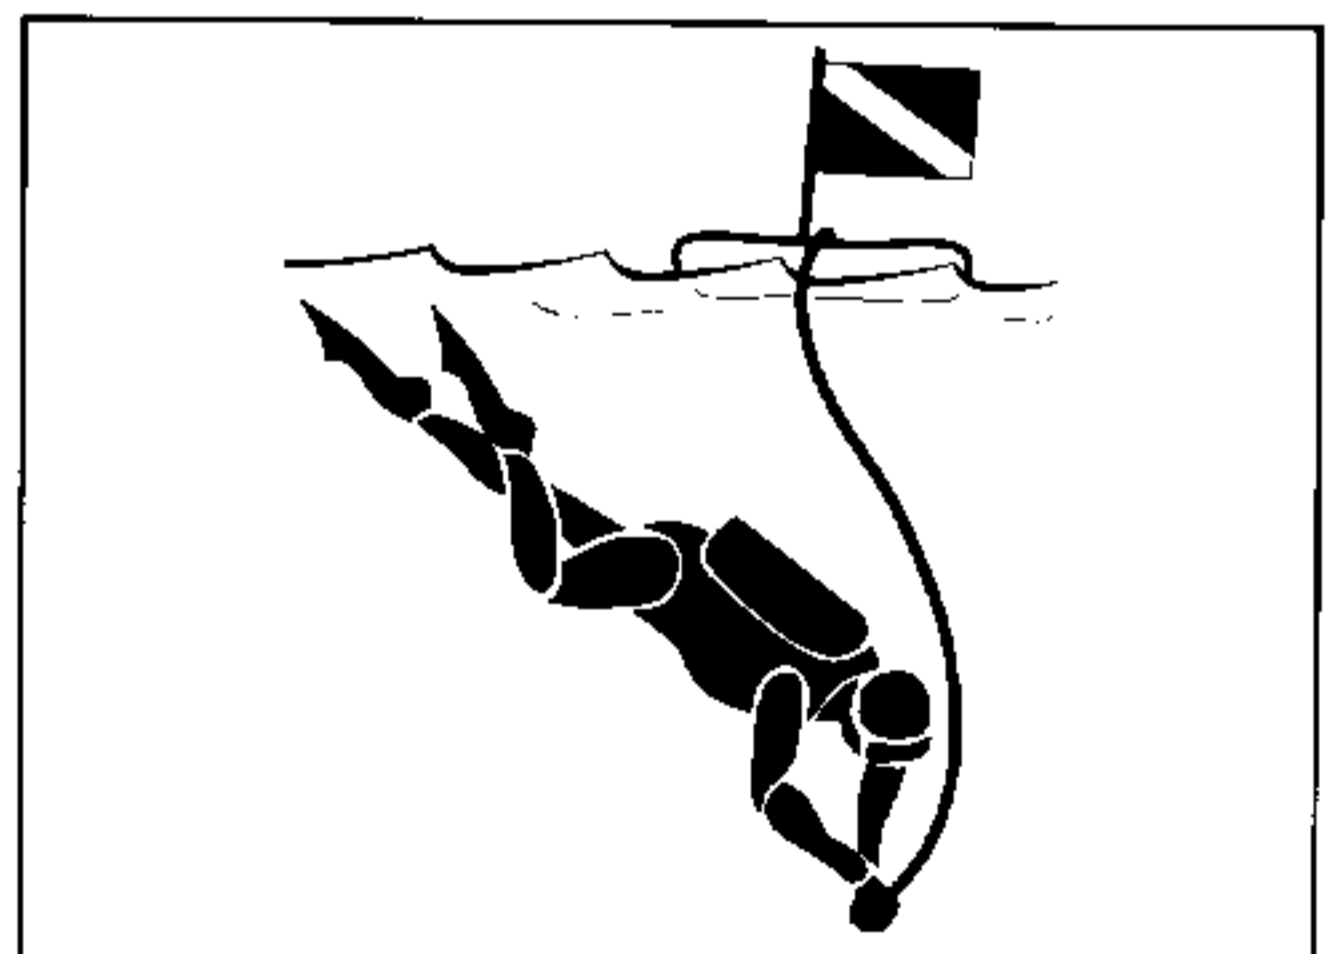

FIGURE 2.12 DIVER DOWN FLOAT
10. Do not allow anyone near the propeller(s), even when the engine is off. Propeller blades can be sharp and can continue to turn even after the engine is off. Stay at least 150 feet away from areas marked by a diver down float (**Figure 2.12**).